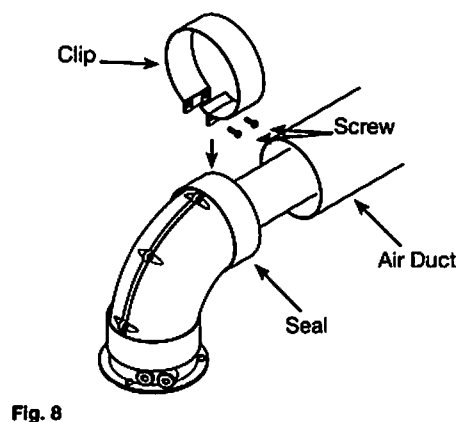

Fig. 8
11. Draw the air duct out of the wall and align it with the elbow. Position the seal so that it equally covers the joint (Fig. 8).
12. Remove the screws from the second clip provided. Prise the clip apart and fit it over the seal. Refit the screws to the clip and tighten them (Fig. 8).